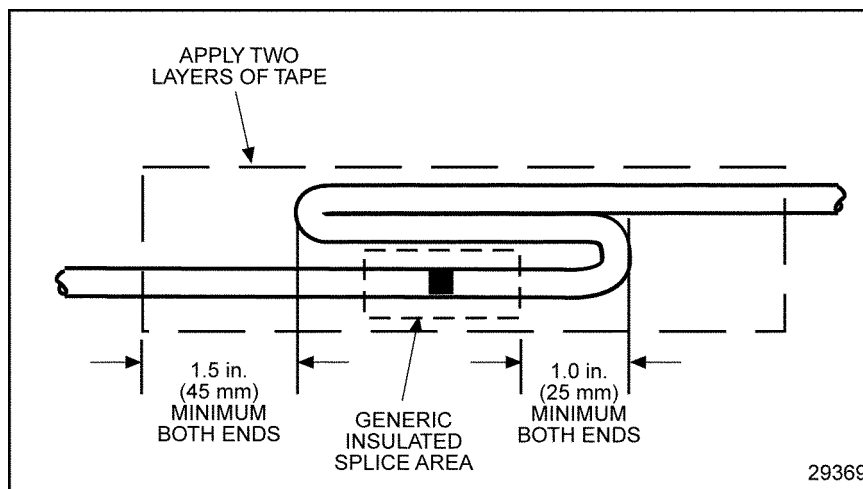

Figure 2-16 Recommended Strain Relief of Spliced Joint
5. Loop the lead back over the spliced joint and tape. See Figure 2-16.
8. Loop the lead back over the spliced joint and tape. See Figure 2-16.
9. Loop the lead back over the spliced joint and tape. See Figure 2-16.